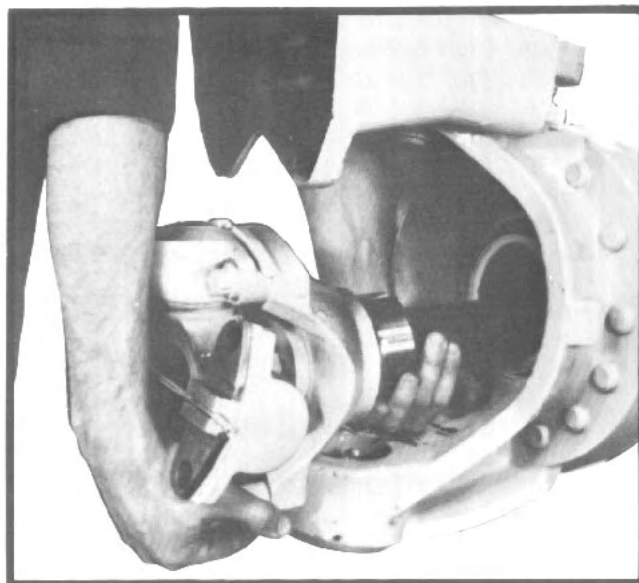

Fig. 16
2. Withdraw cross and bearing assembly, inner drive yoke and inner axle shaft as an assembly. Use care not to damage the inner axle seal assembly (See fig. 16).
2. Insert axle shaft through inner seal until splines engage differential side gear (See fig. 16, page 14). Care must be taken to avoid damaging the seal with sharp spline edges or the hub of the inner drive yoke. When axle shaft and yoke is engaged and firmly held, tighten the bolt connecting the inner drive yoke to the axle shaft to correct torque.